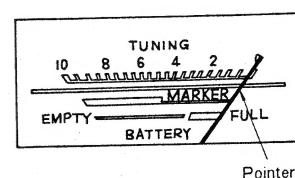

Fig. 22
- Adjust R54 so that the pointer of level meter stays as shown in fig. 22.